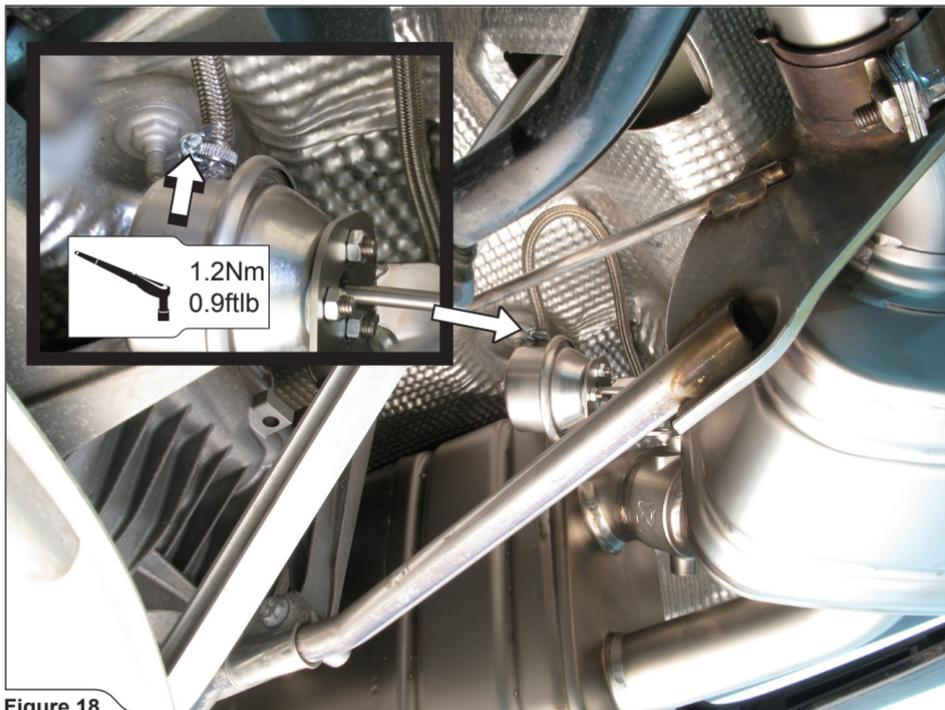

Figure 18
11. **For vehicles with stock sport exhaust system only:** attach the stock vacuum tubes to the vacuum actuators, using tape clamps from Akrapovič installation kit (**Figure 18**).